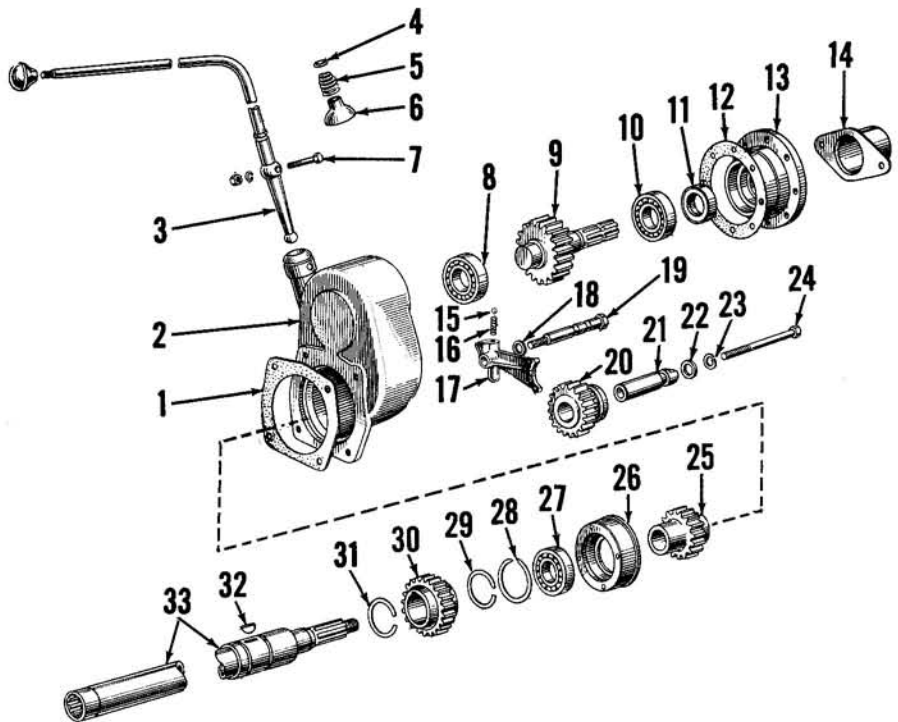

Fig. 174—Exploded view of typical raised PTO drive unit. Unit raises PTO output shaft to within ASAE specifications as measured from drawbar hitch point.
**225. REMOVE AND REINSTALL.** First, drain rear axle center housing lubricant and remove PTO output shaft guard. Remove the two lower retaining cap screws and lock washers, then unscrew the two upper cap screws and remove unit from tractor. NOTE: Do not remove the upper right cap screw (19—Fig. 174) as it also functions as the rail for shifter fork (17). If unit is not to be disassembled, retain cap screw with nut until unit is to be reinstalled.
gear assembly into rear axle center housing and rotate shaft to align splines and hydraulic pump drive gears, then push the assembly into place. Install the raised PTO unit using a new gasket (1—Fig. 174) and securely tighten the retaining cap screws. NOTE: Special rubber bonded washers must be used on the two upper cap screws.
To disassemble raised PTO unit, push down on shift lever and remove lever pivot bolt (7—Fig. 174), then withdraw the lever. Remove upper right cap screw (shift rail) (19) taking care not to lose detent ball (15) or spring (16) and remove shift fork (17). Drive idler gear shaft (21) out rear of housing and remove idler gear (20). Unbolt and remove output shaft bearing retainer (13) with gear (9) and bearings (8 and 10). Bump retainer from rear bearing and remove output shaft seal from retainer. Remove bearings from output shaft using suitable bearing puller.